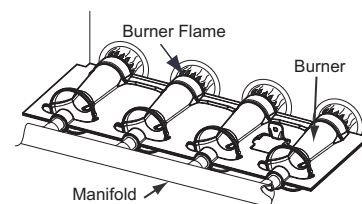

Fig. 28 – Burner Flame Adjustment
5. Start your furnace and observe its operation. Watch the burner flames to see if they are clear blue, almost transparent (see Fig. 28). If you observe a suspected malfunction, or the burner flames are not clear blue, call your dealer.